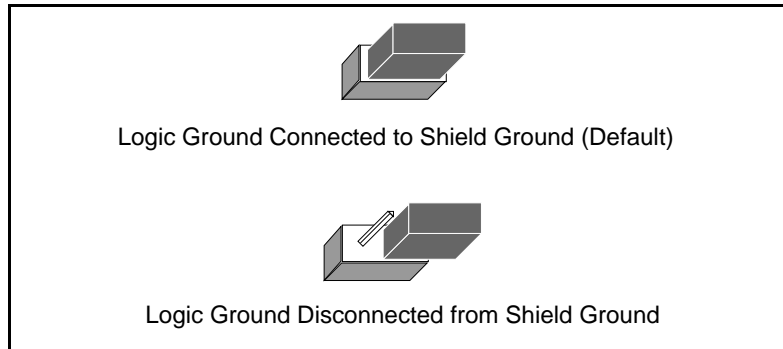

Figure 2-13. AT-GPIB/TNT Ground Configuration Jumper Settings
2. Remove the jumper and place it across only one of the jumper pins, as shown in Figure 2-13.